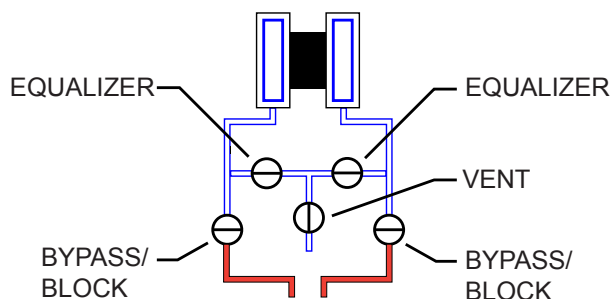

Figure 2.16—Valve positions for zero offset
1. Close the bypass valves to isolate the pressure below the manifold (Figure 2.16).